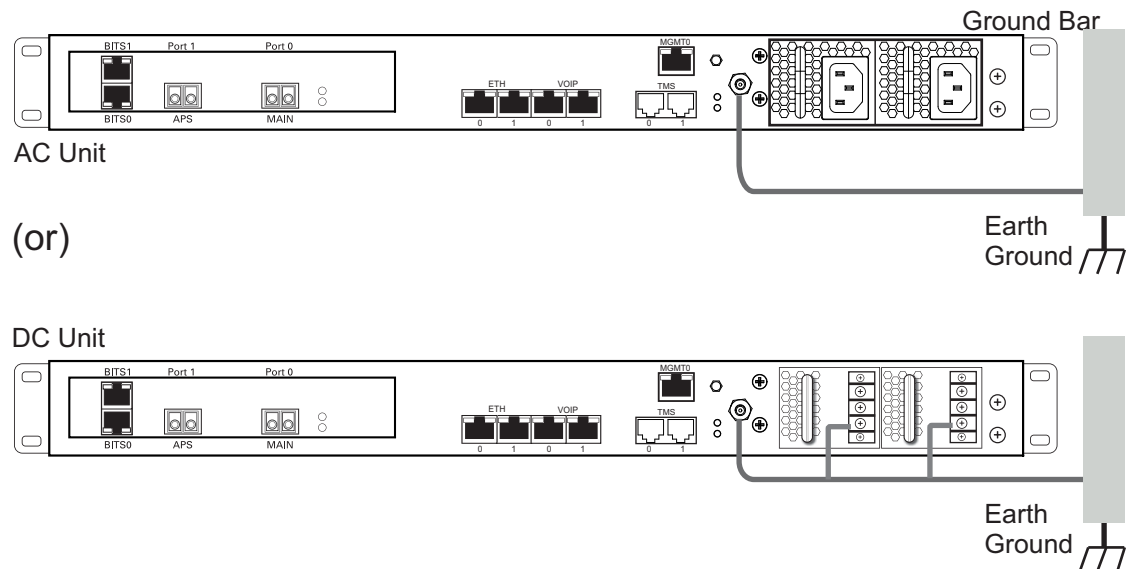

Figure 4.12 Chassis Ground Connection
- Do NOT daisy chain the ground between equipment. Use a ground bus bar, as show in figure 4.12 on page 38.
1. Connect one end of a ground wire to the ground lug of the 7800 Telecom unit. See figure 4.12 on page 38.